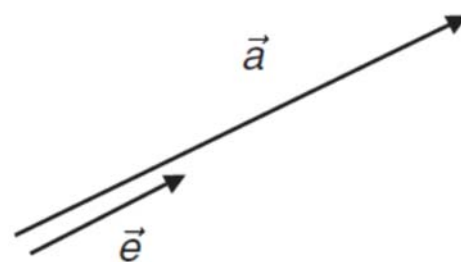

Figure 1.1
- A **vector** is a physical entity having both a magnitude (length or size) and a direction. For a vector \vec{a} it holds, see Fig. 1.1: